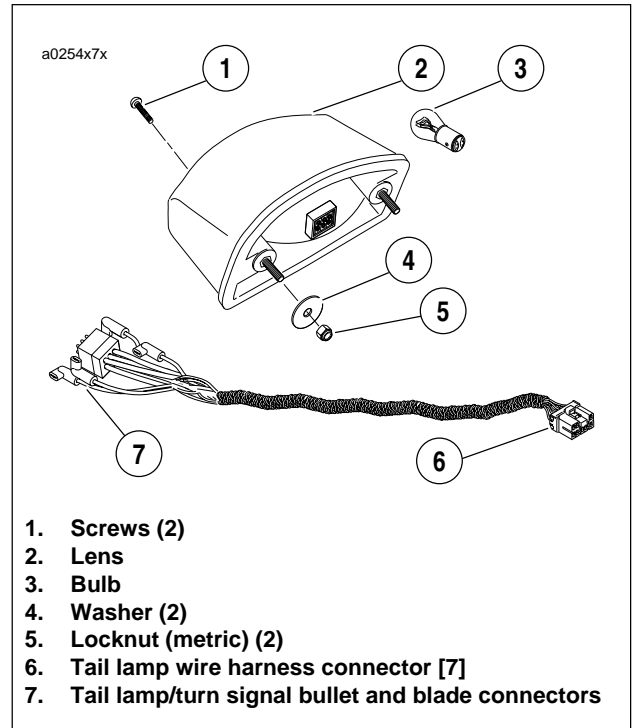

Figure 7-65. Tail Lamp
1. See Figure 7-65. Remove two screws (1) and lens (2).
2. Rotate bulb (3) counterclockwise and pull to remove.
1. See Figure 7-65. Disconnect the tail lamp connector (7) from rear of tail lamp under tail section.
2. Remove two locknuts (metric) (5), washers (4) and tail lamp.
1. See Figure 7-65. Attach tail lamp to tail section with two washers (4) and locknuts (metric) (5). Tighten locknuts to 23-28 **in-lbs** (2.6-3.2 Nm).
2. Attach the tail lamp connector (7) to the back of the tail lamp.